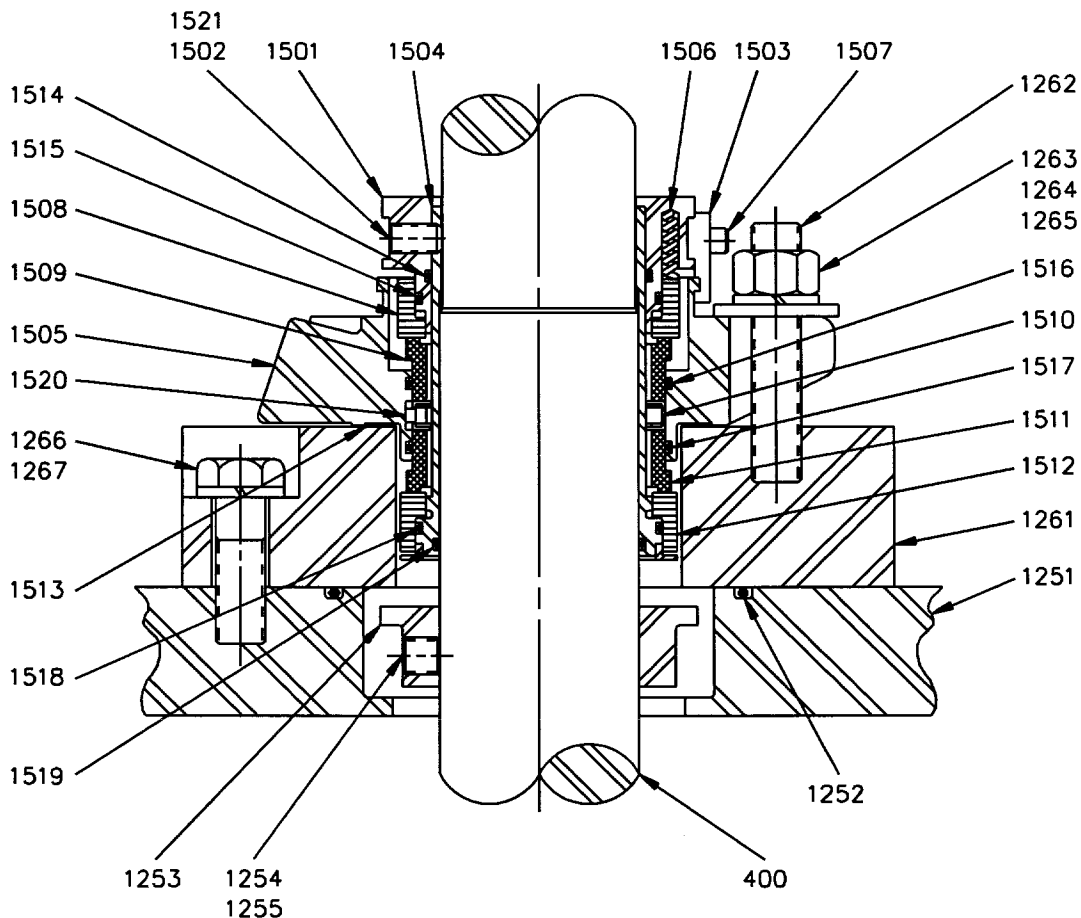

Figure 25: Model GTN, Chesterton 255 Double Mechanical Seal
Model GTN, Double Mechanical Seal Cartridge: (Refer to Figure 4, page 13 and Figure 25, page 60)
12. To disassemble the cartridge mechanical seal, remove three centering clips [1503], press down on lock ring [1501] and back off all setscrews [1502, 1521] so they disengage from the sleeve. Refer to *Figure 25, page 60*.